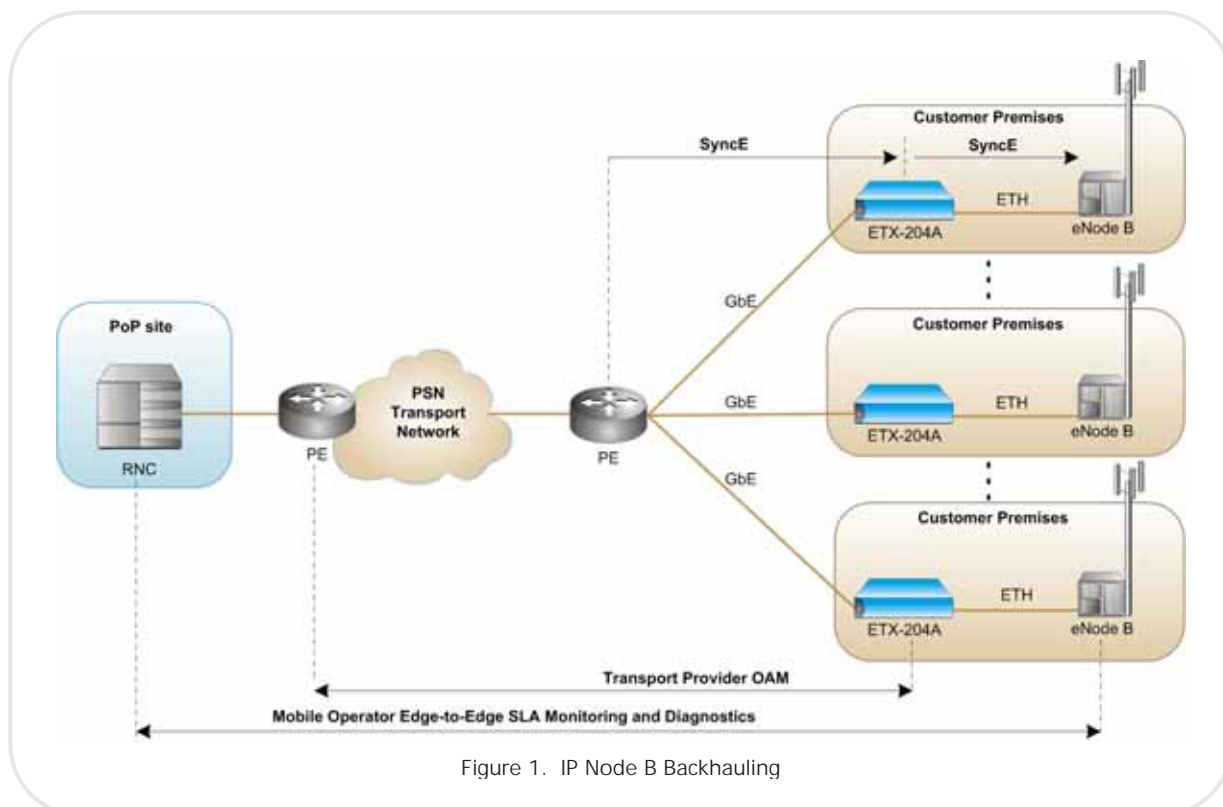

Figure 1. IP Node B Backhauling
- IP Node B backhauling – ETX-204A acts as a transport demarcation device, connecting the base station to the packet network. This provides a clear demarcation between the service domain and the transport domain with proactive service monitoring and easy fault localization throughout the entire network (see *Figure 1*).